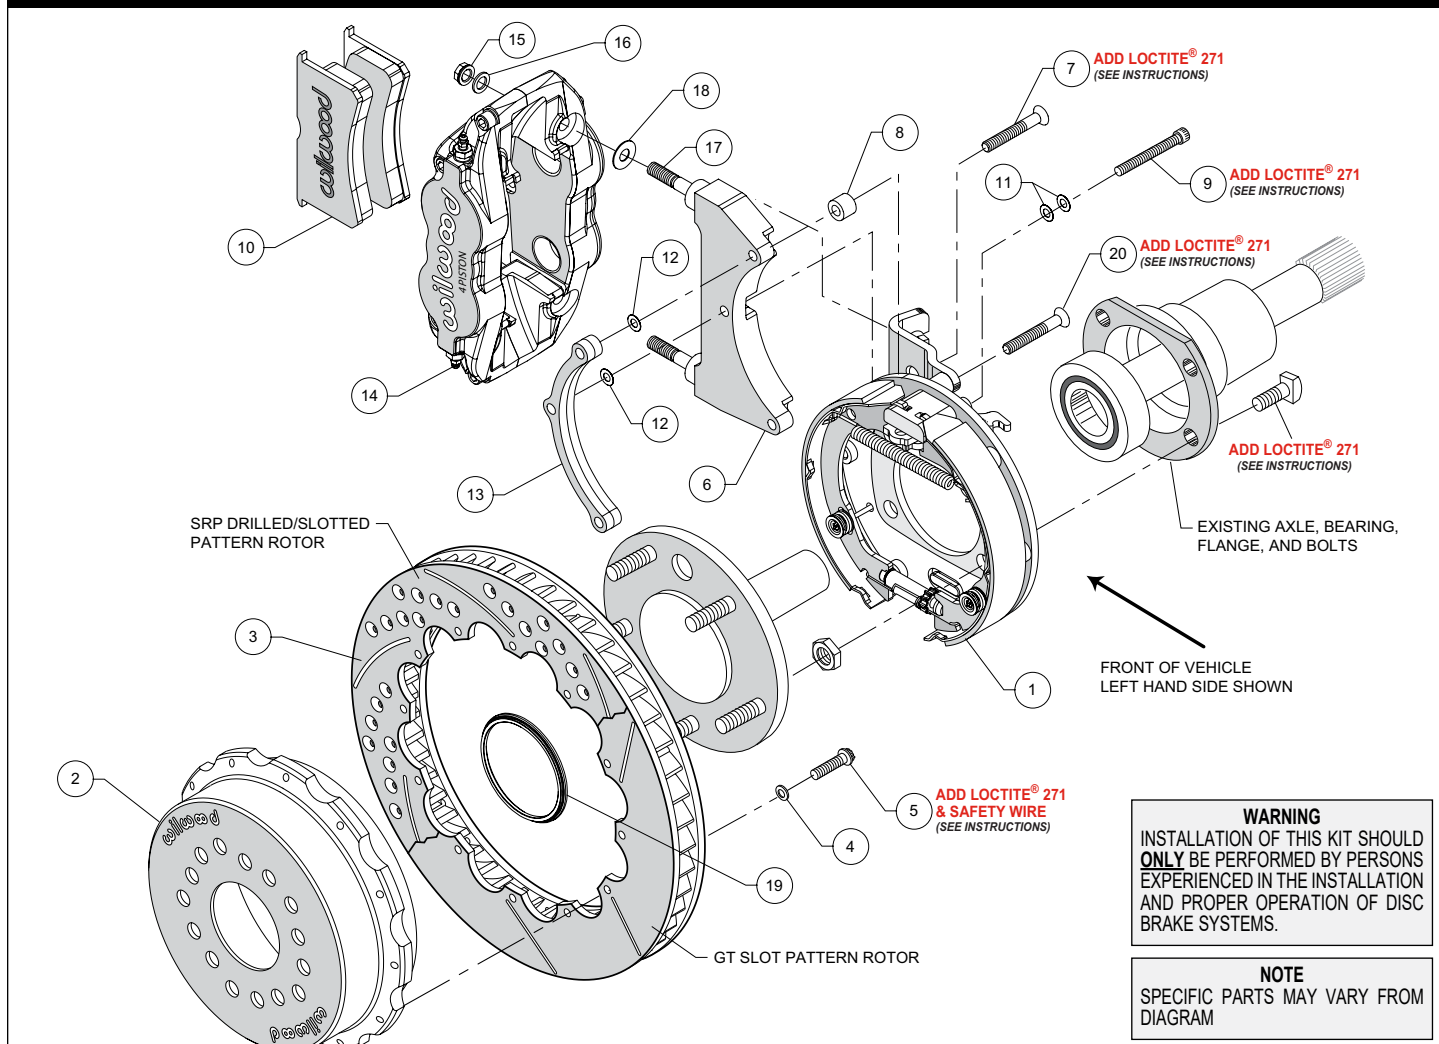
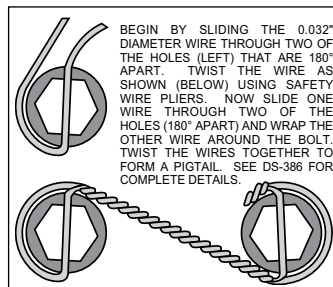

Figure 1. Typical Installation Configuration
Figure 4. Safety Wire Diagram
Assembly Instructions (numbers in parenthesis refer to the parts list and Figure 1 on the preceding pages): **CAUTION:** All mounting bolts must fully engage threaded holes.
- Orient the bracket assembly (1), as shown in Figure 1, and mount to the axle housing flange using the Original Equipment Manufacturer (OEM) bolts and nuts, Figure 1. Ensure that the bracket assembly backing plate fits flush against the axle housing flange. Apply red Loctite® 271 to the OEM bolt threads and torque to OEM specifications.
- **NOTE:** Please reference the caution statement at the beginning of the assembly instructions. The caliper mounting bracket assembly (6) should initially be installed with clean, dry threads on the mounting bolts. **NOTE:** The caliper bracket must tighten squarely against the back side of the bracket kit assembly (1). The ends of the bolts should not exceed inside face of insert. Later, after the caliper alignment has been checked, the mount bolts will be secured using red Loctite® 271.
- Remove and discard temporary rubber spacer from bolt (7). Orient bracket (6) and 3-hole spacer (13) as shown in Figure 1 and Photo 1, and install using bolts (9) and washers (11) in the middle and lower hole locations, Figure 1. Use bolt (7) in the upper hole with spacer (8) placed between the bracket (6) and the cable stop bracket, Photo 1. Initially place one .015" shim washer (12) on each of the three bolts between the bracket and 3-hole spacer, Figure 1. Temporarily tighten the mounting bolts.
- Orient the rotor (3) and the hat (2) as shown in Figure 1 and Photo 2. Attach rotor to hat using bolts (5) and washers (4). Apply red *Loctite*® 271 to the bolt threads and torque to 155 in-lb using a criss-cross pattern. For an added measure of security, the bolts may be safety wired using standard 0.032 inch diameter stainless steel safety wire as shown in Figure 4. Please refer to Wilwood's data sheet DS-386 (available at www.wilwood.com/Pdf/DataSheets/ds386.pdf) for complete safety wire installation instructions.
- Slide the rotor registration adapter (19) onto the axle register on the axle flange with the smaller O.D. facing toward the rotor/hat (3 and 2), Photo 3. Align the correct hole pattern in the hat with the stud pattern on the axle flange and slide into place, Figure 1 and Photo 4. **NOTE:** The rotor/hat must fit flush against the axle flange or excessive rotor run out may result. Install three lug nuts (finger tight) to keep the rotor/hat assembly in place while continuing with the installation. **NOTE:** Some OEM and after market axles come with stud sizes larger than 0.50" diameter. Verify stud size and have a qualified machine shop drill the bolt circle of the hat/rotor to the correct stud size, if necessary.
- Initially place one .035" thick shim (18) on each stud as shown in Figure 1 and Photo 5. Mount the caliper (14) onto the bracket (6) using lock nuts (15) and washers (16), Figure 1. Temporarily tighten the lock nuts and view the rotor through the top opening of the caliper. The rotor should be centered in the caliper, Photo 6. If not, adjust by adding or subtracting shims (12) between the bracket (6) and the 3-hole spacer (13). Always use the same amount of shims on each of the three mounting bolts. Once the caliper alignment is correct, remove the bracket mounting bolts (7 and 9) one at a time, apply red *Loctite*® 271 to the threads, and torque to 180 in-lb. Also, remove cable stop bracket bolts (20), apply red *Loctite*® 271 to threads and torque to 180 in-lb.